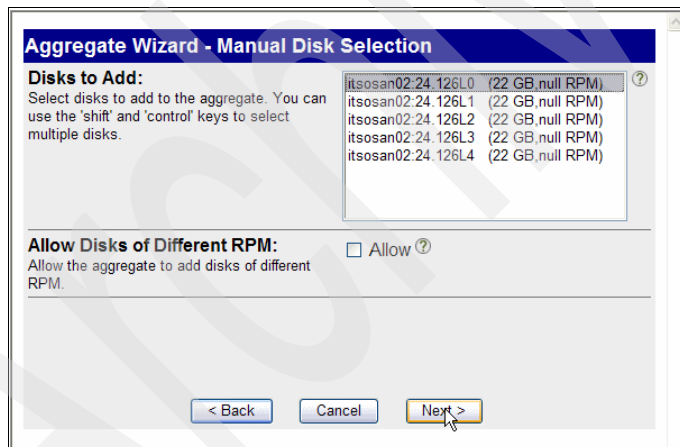

Figure 7-12 Aggregate Wizard: Disks to add
6. In Figure 7-12, you select the disk, and click **Next**. We chose the ID and disk size and selected one disk: itsosan02:24.126L0. The disks we select from the list will form the aggregate.